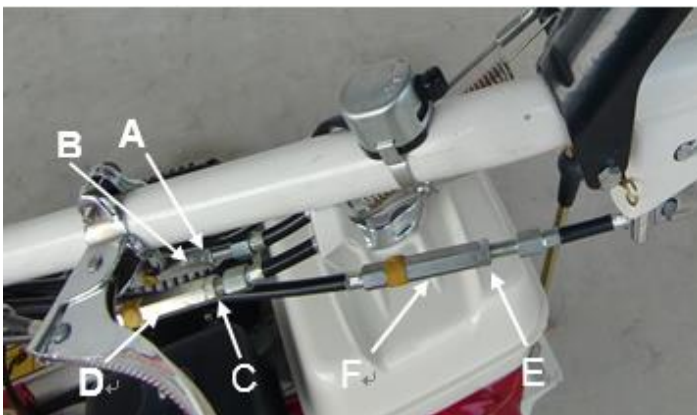

Figure 18
- If the machine does not stop when the drive clutch lever is released, adjust the tension wire as follow : unscrew the locking screw (A Figure 18) and unscrew the nut B. Try to move the machine again. Perform the adjustment again if needed. When the adjustment is performed screw the locknut A on the nut B.
- If the machine doesn't move when driving clutch lever is pressed, adjust the tension wire as follow : unscrew the locking screw (C Figure 18) and unscrew the nut D. Try to move the machine again. Perform the adjustment again if needed. When the adjustment is performed screw the locknut C on the nut D.
- Unscrew locking nut (E, Figures 18,19).